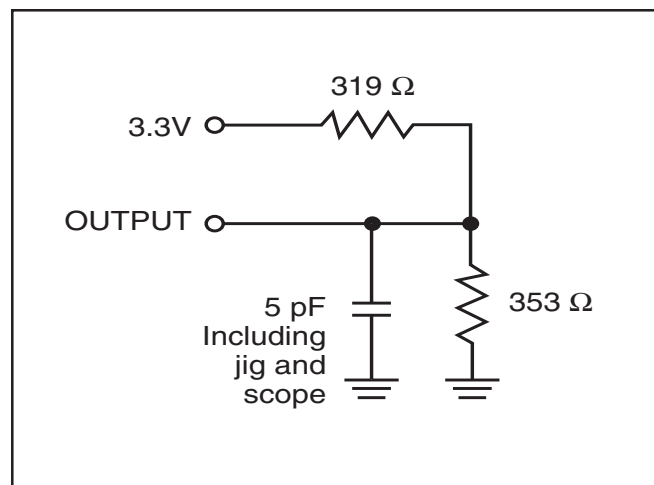

Figure 2
2. Tested with the load in Figure 2. Transition is measured ± 500 mV from steady-state voltage.
2. Tested with the load in Figure 2. Transition is measured ± 500 mV from steady-state voltage. Not 100% tested.